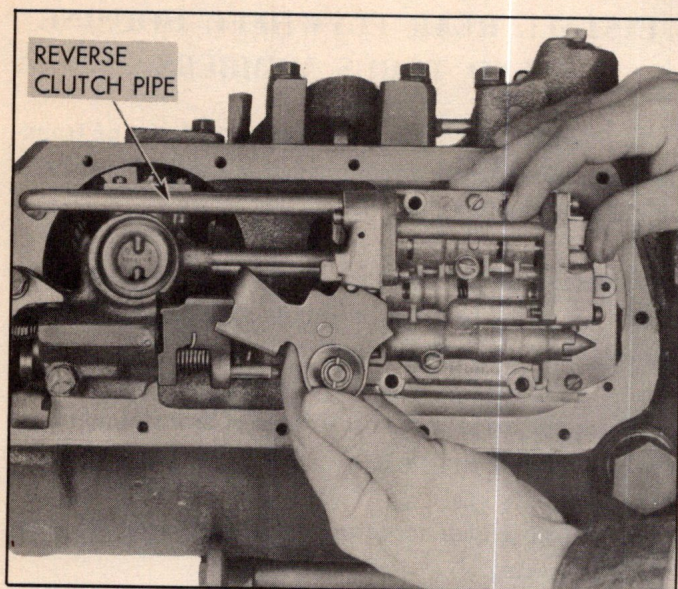

Fig. 311—Installing Control Valve Assembly
8. Install control valve assembly over three oil delivery pipes and reverse clutch pipe and start bolts (Fig. 311). Press valve body and bracket assembly against case. Torque valve body bolts to 6-8 ft. lbs.